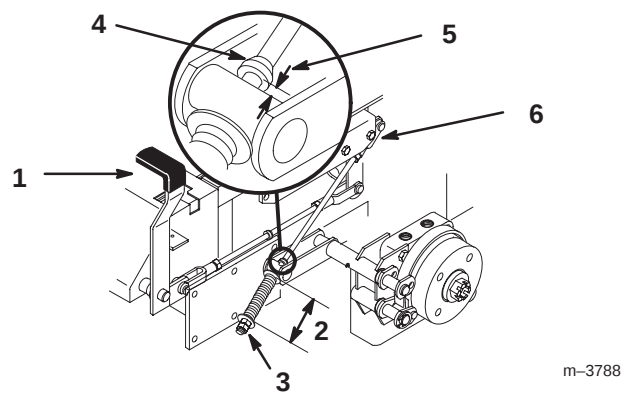

Figure 52
2. Measure the length of the spring. Measurement should be 2.75 in. (70 mm) between washers (Fig. 52).
3. If adjustment is necessary, loosen the jam nut below the spring and tighten the nut directly below the yoke (Fig. 52). Turn the nut until the correct measurement is obtained. Tighten the two nuts together and repeat on opposite side of unit.
6. Measure the distance between the trunnion roller and the collar on brake rod. Measurement should be 3/16–1/4 in. (5–7 mm) (Fig. 52).
7. If adjustment is necessary, loosen the jam nut directly below the yoke. Turn the bottom rod until the correct measurement is obtained (Fig. 52). Tighten jam nut at yoke.